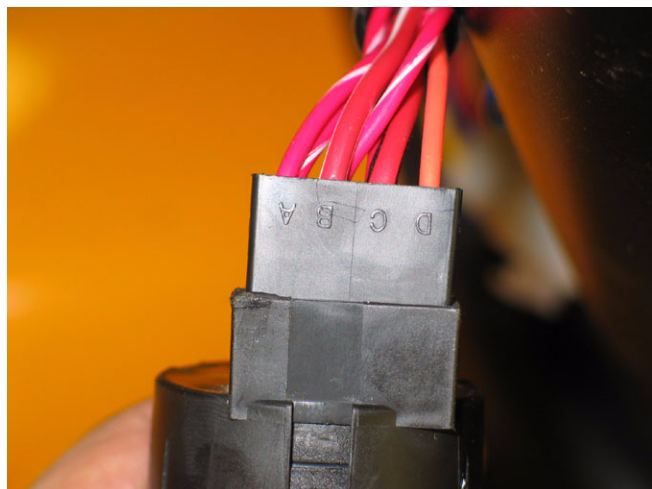

Figure 2.11
2.11. The key switch has four spade terminals. See Figure 2.11.